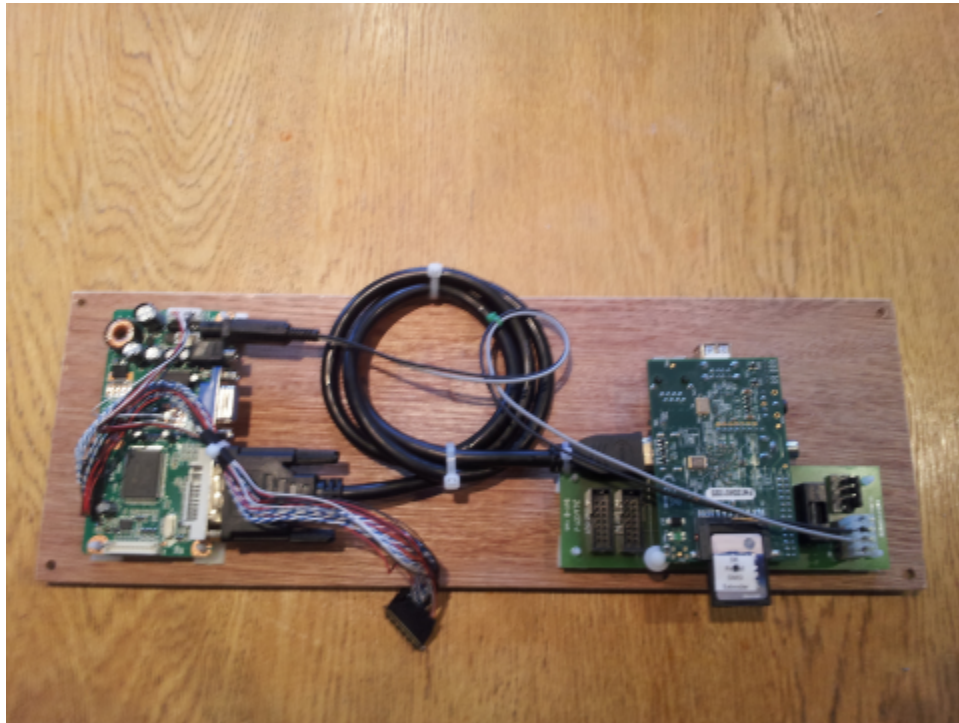

Figure 5 – Components mounted on the plywood panel
Prepare the plywood mounting panel by fixing the DMD Extender, Raspberry Pi and LCD Controller as shown in figure 5.
Figure 5 shows the DMD Extender mounted with the adhesive stand-offs as supplied with the Extender.
N.B. The short foam strips are not shown in figure 5.